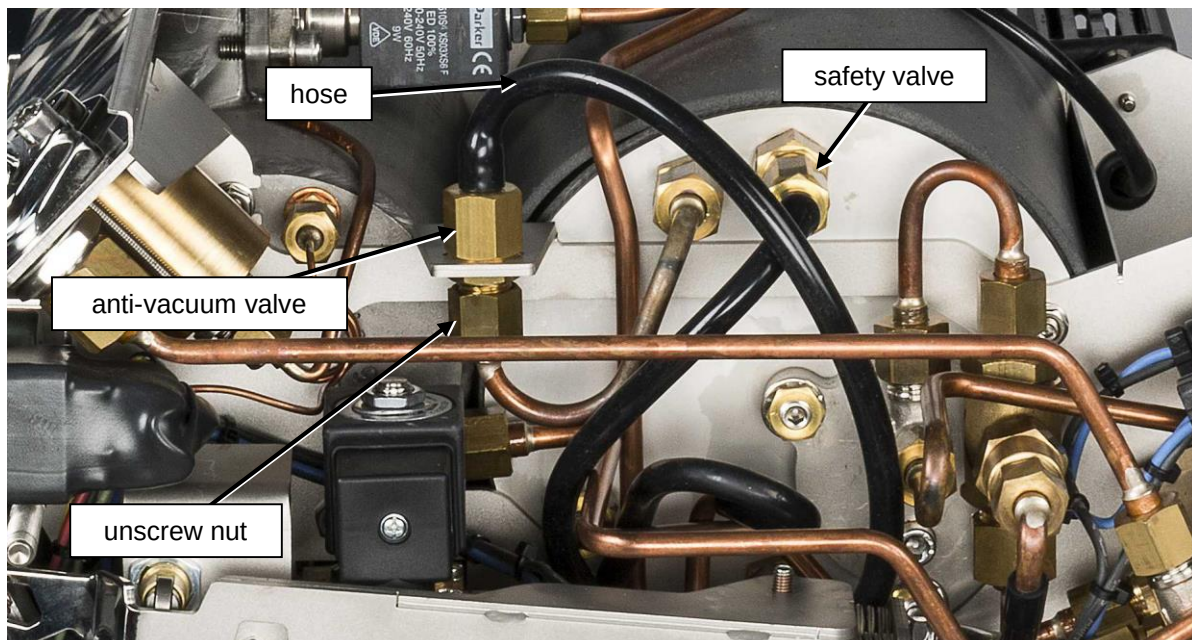

Figure M 3. Machine's interior at right hand side. Showing anti-vacuum valve and nut to unscrew for replacement. Also showing position of safety valve.
4. Pull the black silicone (drain-) hose from the anti-vacuum valve (see *Figure M 3*).